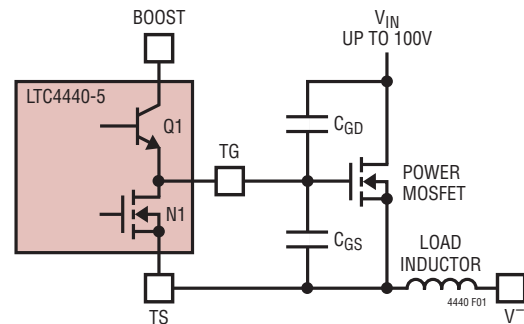

Figure 1. Capacitance Seen by TG During Switching
A simplified version of the LTC4440-5's output stage is shown in Figure 1. The pull-down device is an N-channel MOSFET (N1) and the pull-up device is an NPN bipolar junction transistor (Q1). The output swings from the lower rail (TS) to within an NPN V_{BE} (~0.7V) of the positive rail (BOOST). This large voltage swing is important in driving external power MOSFETs, whose $R_{DS(ON)}$ is inversely proportional to its gate overdrive voltage ($V_{GS} - V_{TH}$).